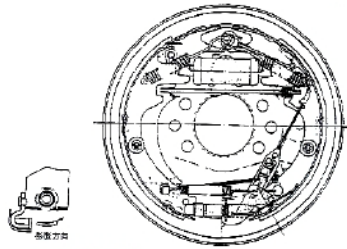
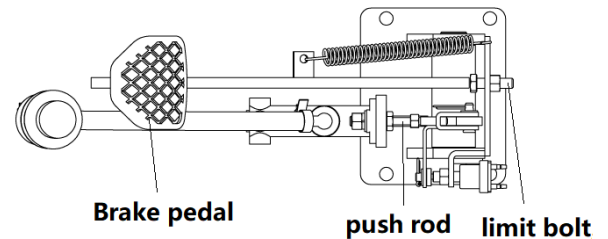

Figure 11
figure 12
(8) Install brake shoe guide to support pin and then install brake shoe return spring, Install the main hoof first, and then the auxiliary hoof, As shown in figure 11
(9) Install adjuster, adjuster spring, ejector pin, ejector return spring, please pay attention to following point :
- (10) Connect the brake tubing to the sub pump
(11) Measure the inner diameter of the brake drum, the out diameter of the brake shoe, and adjust the adjuster to make sure the difference between the inner diameter of brake drum and the outer diameter of friction plate of the brake shoe is 0.3mm-0.5mm, as figure 12 shows. Figure 12